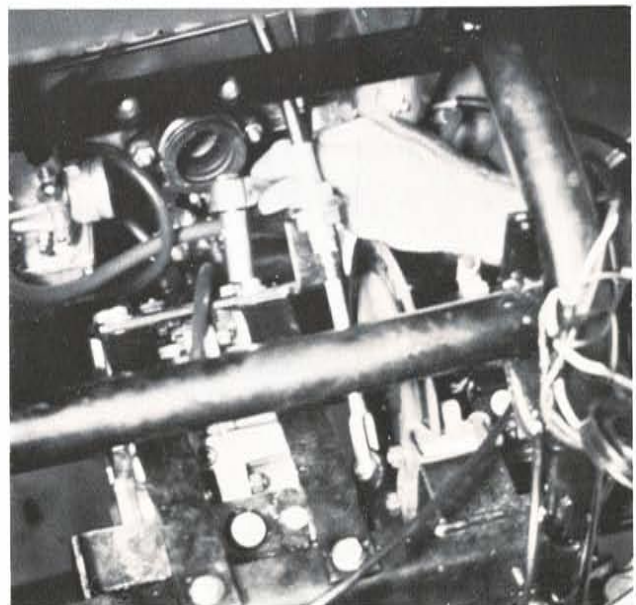

Fig 4
8. Remove the four front mounting bolts securing transmission to frame. (Fig 4)